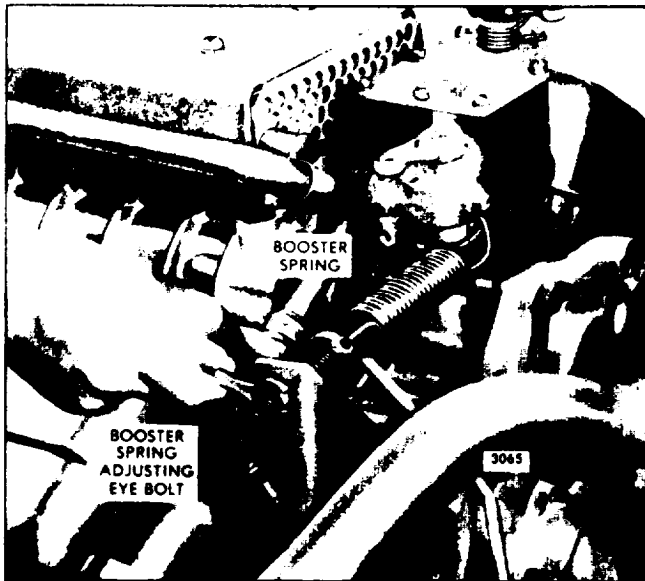

Fig. 9 Adjusting Booster Spring
1. Refer to Fig. 9 and disconnect the booster spring and the stop lever retracting spring.
2. Refer to Fig. 9 and loosen the booster spring